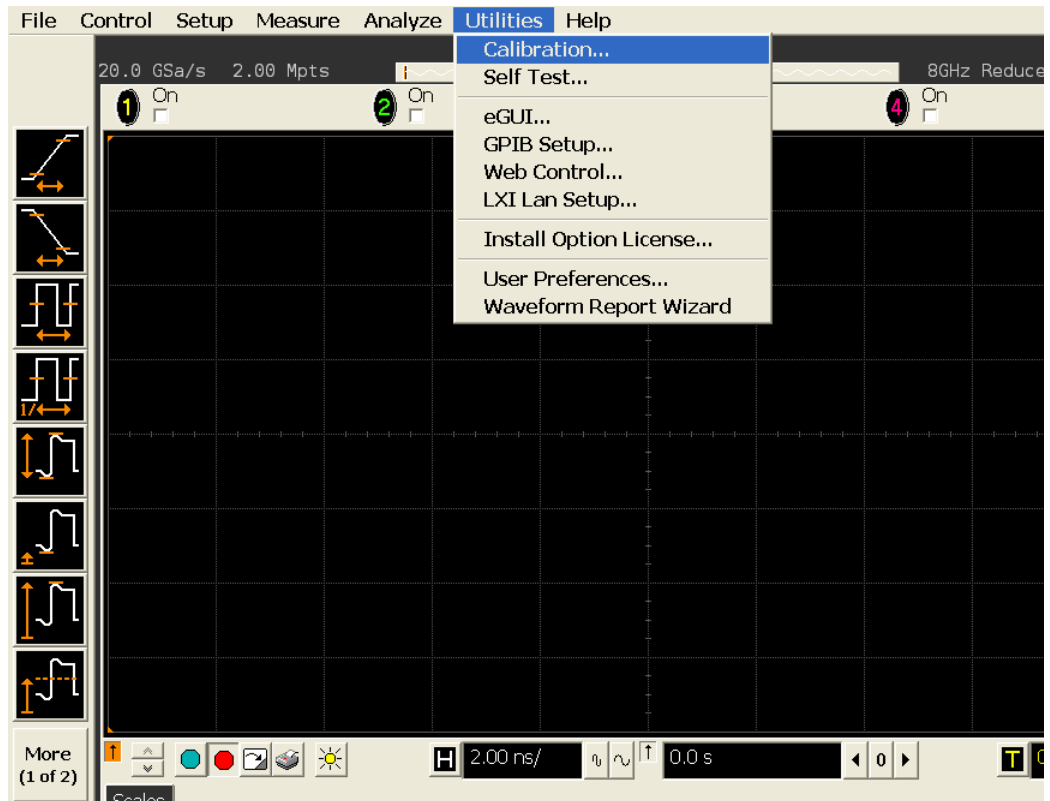

Figure 44 Accessing the Calibration Menu.
- 3 Referring to Figure 44 below, perform the following steps: